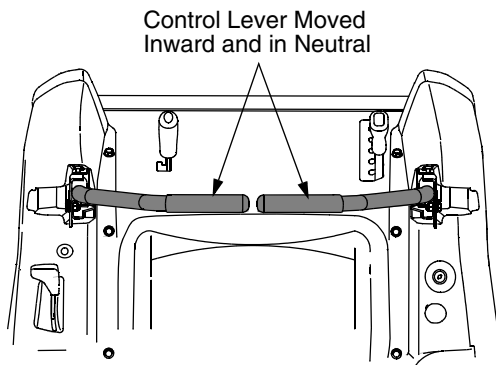

Figure 10
- Move the RH and LH drive control levers inward in the neutral position. Refer to Figure 10.